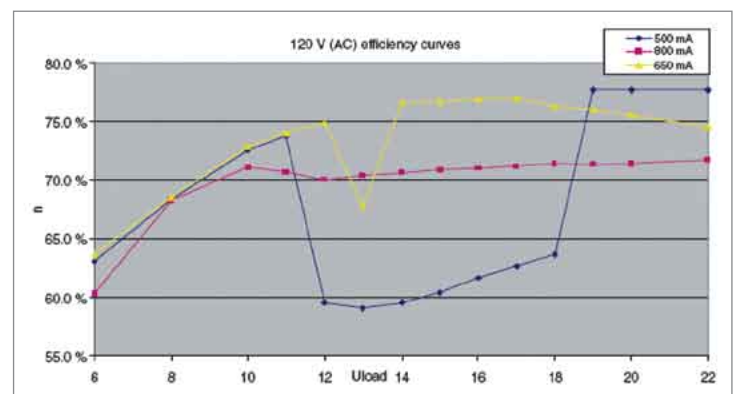
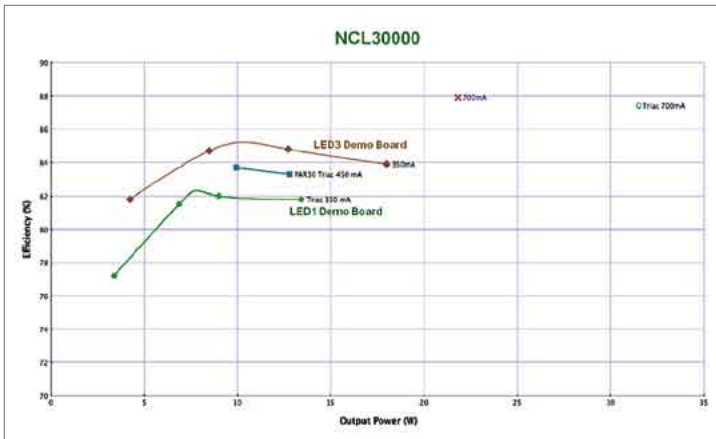

Figure 1: Efficiency curve of a standard 2-stage PFC LED driver based on the load.
Figure 2: Efficiency curve of a 1-stage PFC LED driver using the NCL30000 based on the load.
**Laurent Jenck:** Let me show you two figures. One figure shows the efficiency of an LED driver from our competition in a 2-stage configuration. Maximum efficiency is 76% (figure 1). In the other figure you can see the efficiency of a single stage driver using the NCL30000 (figure 2). In any case the efficiency is much higher.